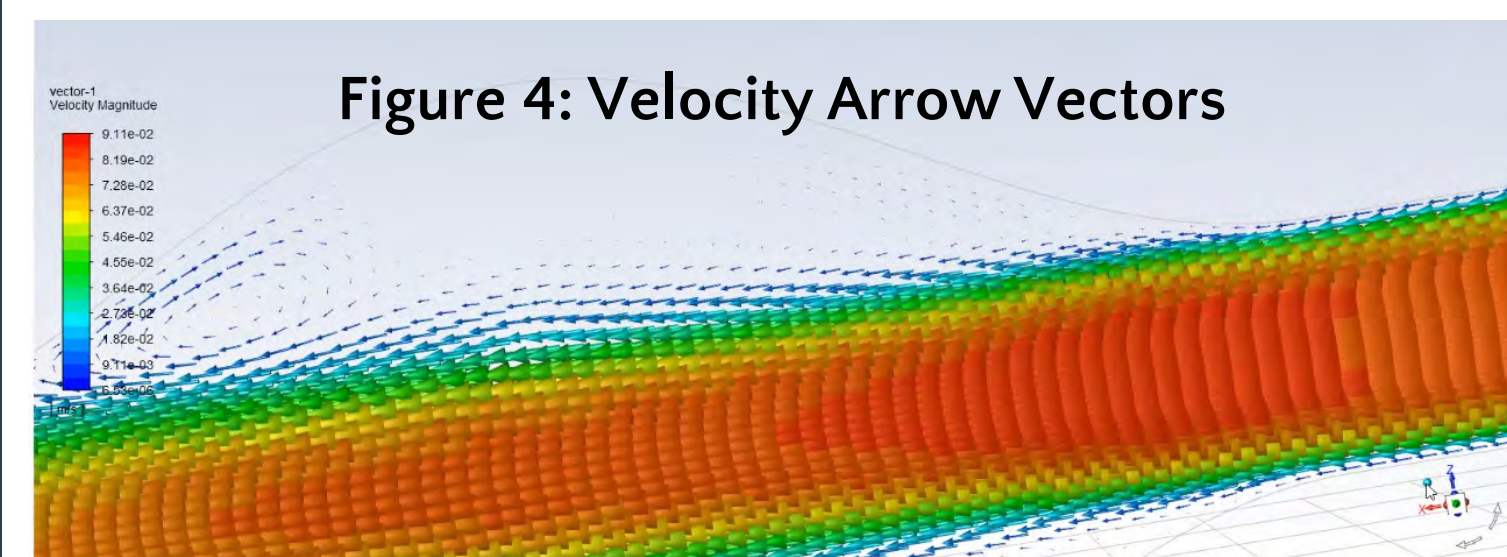

Figure 4: Velocity Arrow Vectors
- Vectors of velocity were calculated and modeled in Fig. 4.